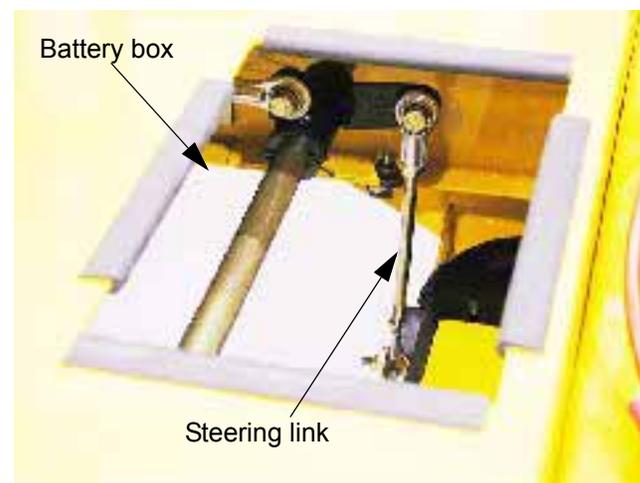

Figure 11.2
- 11.2. Disconnect the negative battery cable using a pair of 7/16" wrenches. See Figure 11.2.